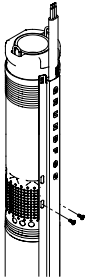

Fig. 8 Fitting the cable guard to the pump suction strainer
3. Fasten the cable guard to the pump suction strainer with the two self-tapping screws supplied, see fig. 8.